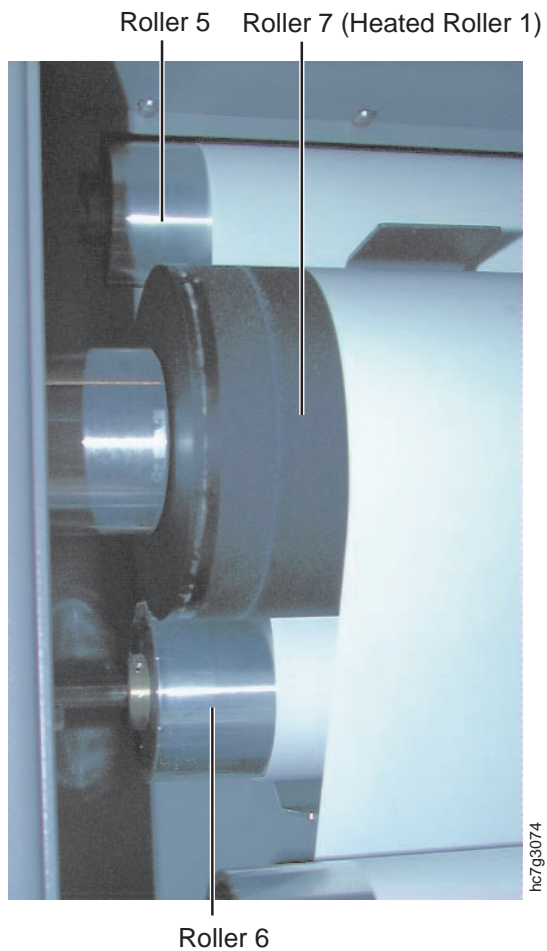

Figure 312. Threading Around Roller 6
16. At the back of the paper supply, thread the print medium behind the bar below roller 5, and then around roller 6, as shown in Figure 312.